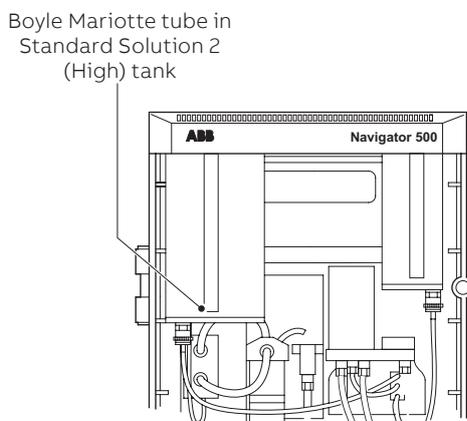

Fig. A.1 Boyle Mariotte tube in standard solution 2 (high) tank
- 2 Replace the standard solutions as a fresh solution may solve the problem. Check that the solenoid valve is energized (an audible click is produced when the calibration is initiated) and that the standard solution is flowing through the sensor – air bubbles should be visible at the bottom of the standard solution Boyle Mariotte tube – see Fig. A.1.